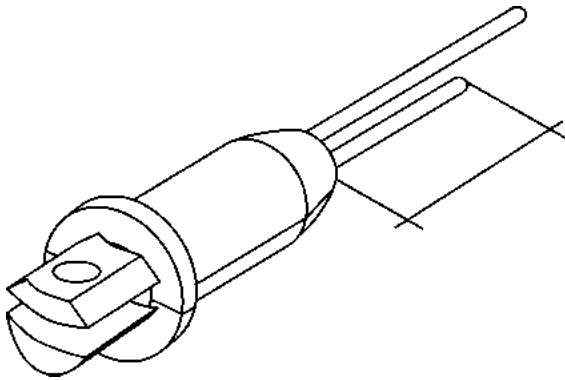

Figure 2 – Protrusion of Dead End
- b. Leave approx 200 mm of the rope end protruding from the socket, as shown in Figure 2, so that slippage will be evident.